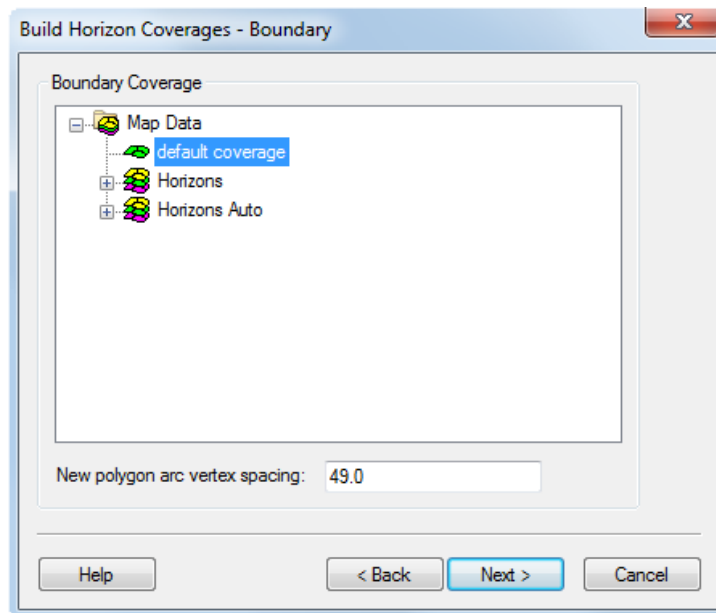

Figure 6. Selecting the starting coverage.
7. In the next step, select the **default coverage** as shown in Figure 6. Click *Next*.